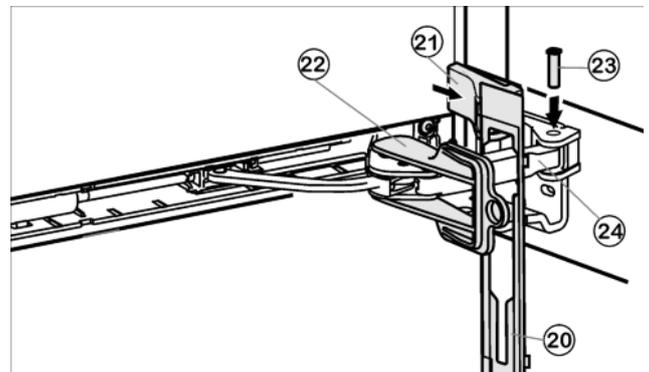

Fig. 15
- ▶ Attach the faceplate Fig. 15 (20) to the soft stop bracket so that the catches face forwards and the front faces the appliance.
- ▶ Draw the soft stop bracket Fig. 15 (24) towards the bearing element and insert the pin Fig. 15 (23) from above so that the square is seated in the depression.
- ▶ Attach and engage the cover Fig. 15 (21).
- ▶ Twist the safety lock Fig. 15 (22) for removal.
- ▶ Snap the faceplate Fig. 15 (20) onto the door.